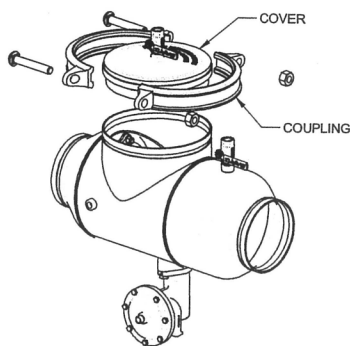

Figure 6
2. Lift off the cover. The gasket may remain on the valve body. See Figure 6.